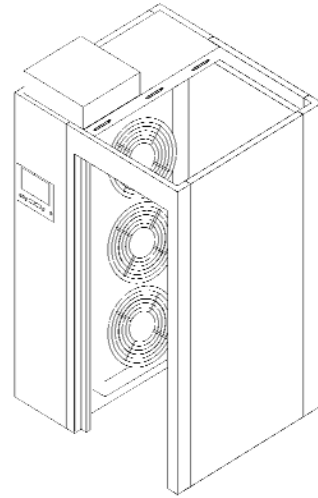

Fig 3
6. Assemble the doorjamb to the panels. (Fig. 3)